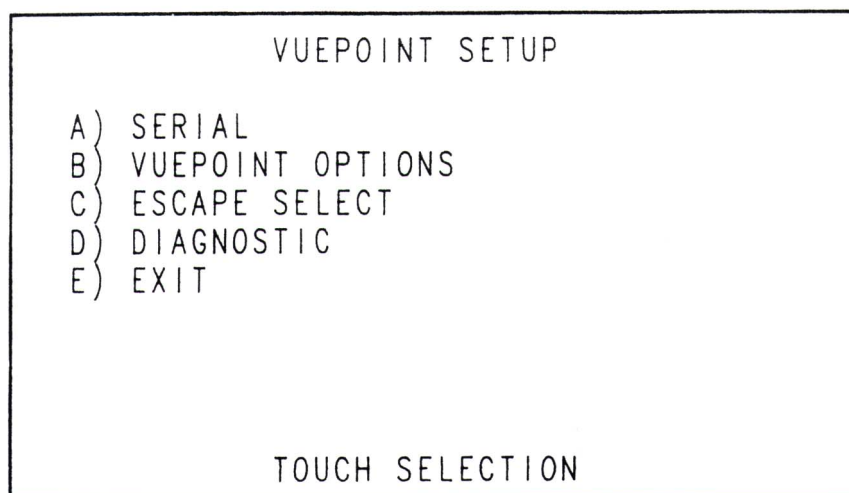
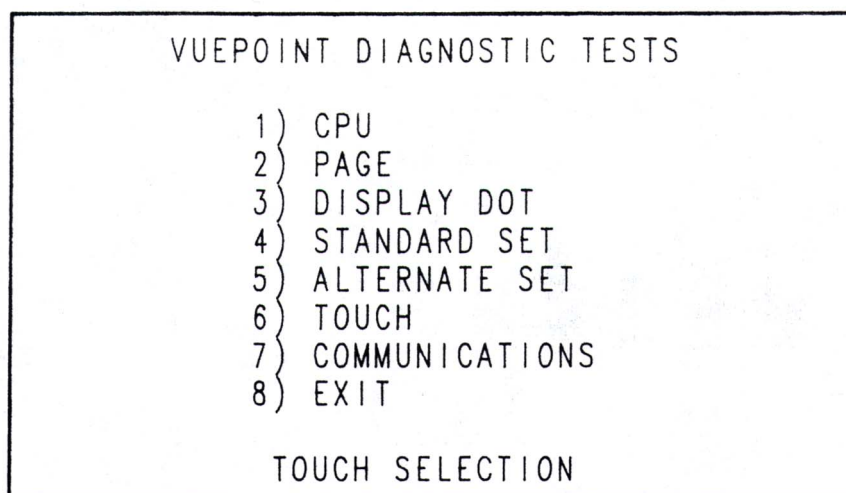

Figure 2-1
Figure 2-2
If all is well, the screen of the VuePoint™ III will look as shown in Figure 2-1.
If you change any parameters in SERIAL, VUEPOINT OPTIONS or ESCAPE SELECT, the settings will not be saved until you touch EXIT on the VUEPOINT SETUP screen (Figure 2-1).
- 1) Assuming the display still looks as shown in Figure 2-1, touch the word DIAGNOSTIC on the display. This activates the built-in test program and generates the display shown in Figure 2-2.